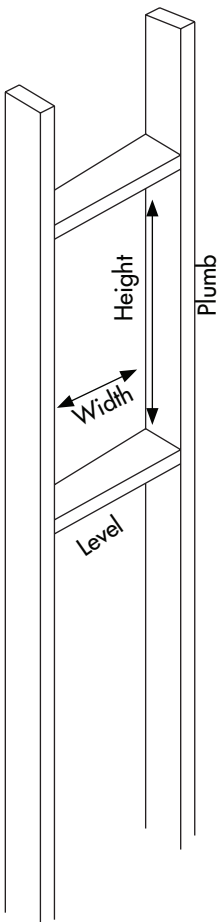

FIG 1
1. Take Care in determining correct opening size (Fig 1). Use specifications on page 1, or following formulas:
2. **IMPORTANT:** Make sure opening is PLUMB and LEVEL (Fig 1)! A square and plumb installation insures proper operation of door.